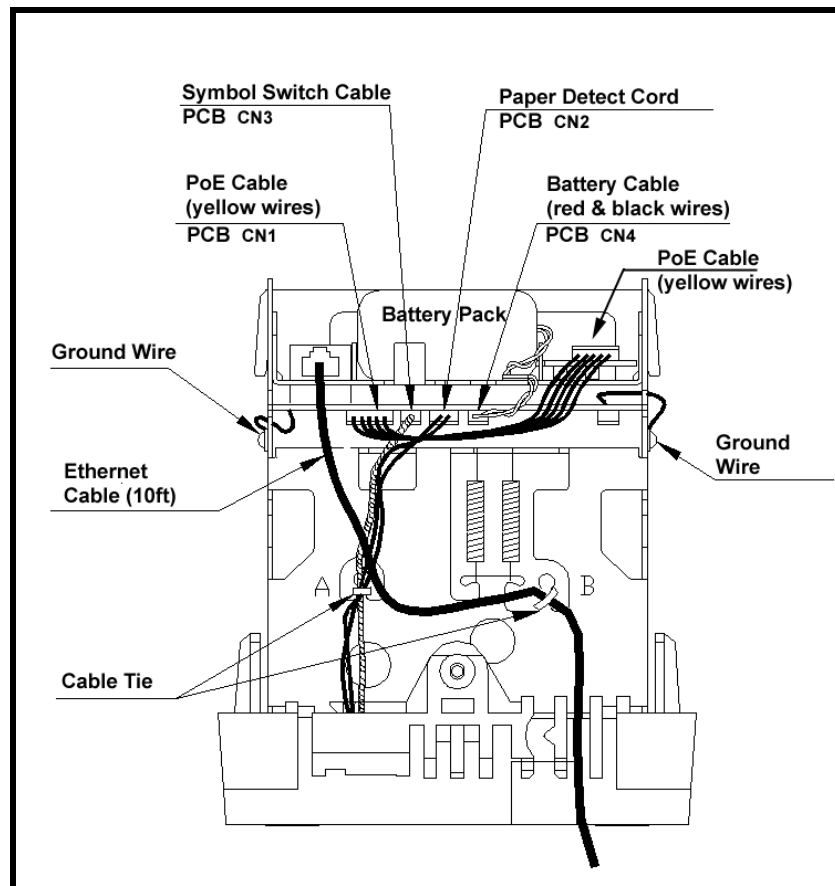

Figure 2-13: Rear View Showing PoE & FPR Cables/Connections
Step 12. Plug in the FPR battery pack cable (the connector with the black and red wires) into the small open connector (see *Figure 2-13*) located just under the battery pack on the PCB. Next, plug in the PoE connector to the left of the FPR connector for the PoE cable (yellow wires). It is keyed and can only fit into the connector one way. The connection for the PoE cable has a 5-pin connector on the main PCB and a 5-pin connector at the PoE PCB. Both connector ends are keyed (can only fit in one way). You may have to temporarily remove the connector on the PoE PCB to install the top plate.